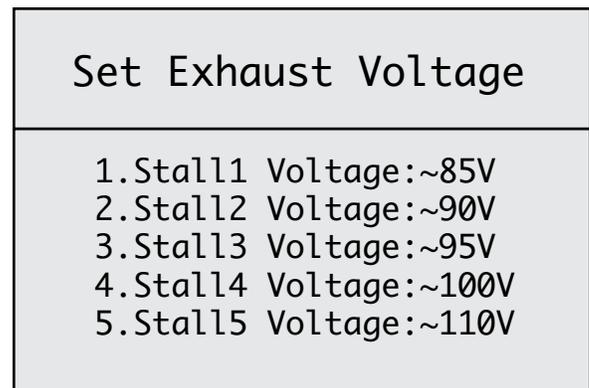

Figure 28
2. Using the SCROLL DOWN key, move to option 4: "Set Exhaust Voltage". Press ENTER again to move into the "Set Exhaust Voltage" screen. **SEE FIGURE 28.**
4. Using the SCROLL UP or SCROLL DOWN keys, select the appropriate voltage. **NOTE: Voltage can only be decreased or increased in increments of five (5).**